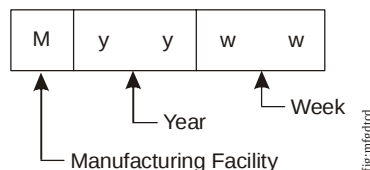

Figure 1: Manufacturing Date Code
- the **manufacturing date code** of the valve (as illustrated in Figure 1)